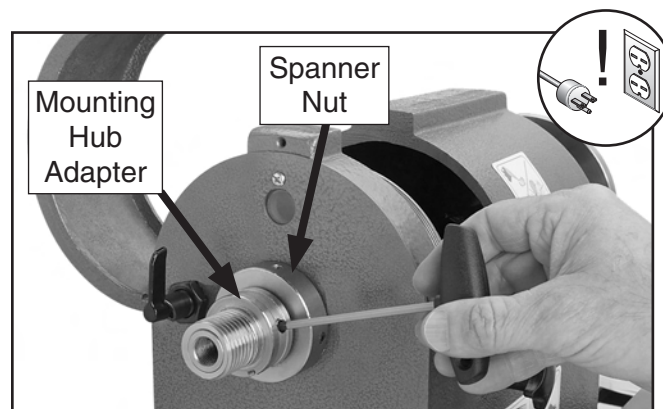

Figure 58. Loosening set screw on outboard mounting hub adapter.
3. Loosen the set screws on the outboard mounting hub adapter (see **Figure 58**), place a hex wrench in one of the spanner nut set screws to hold the nut in place, then unthread the mounting hub adapter.